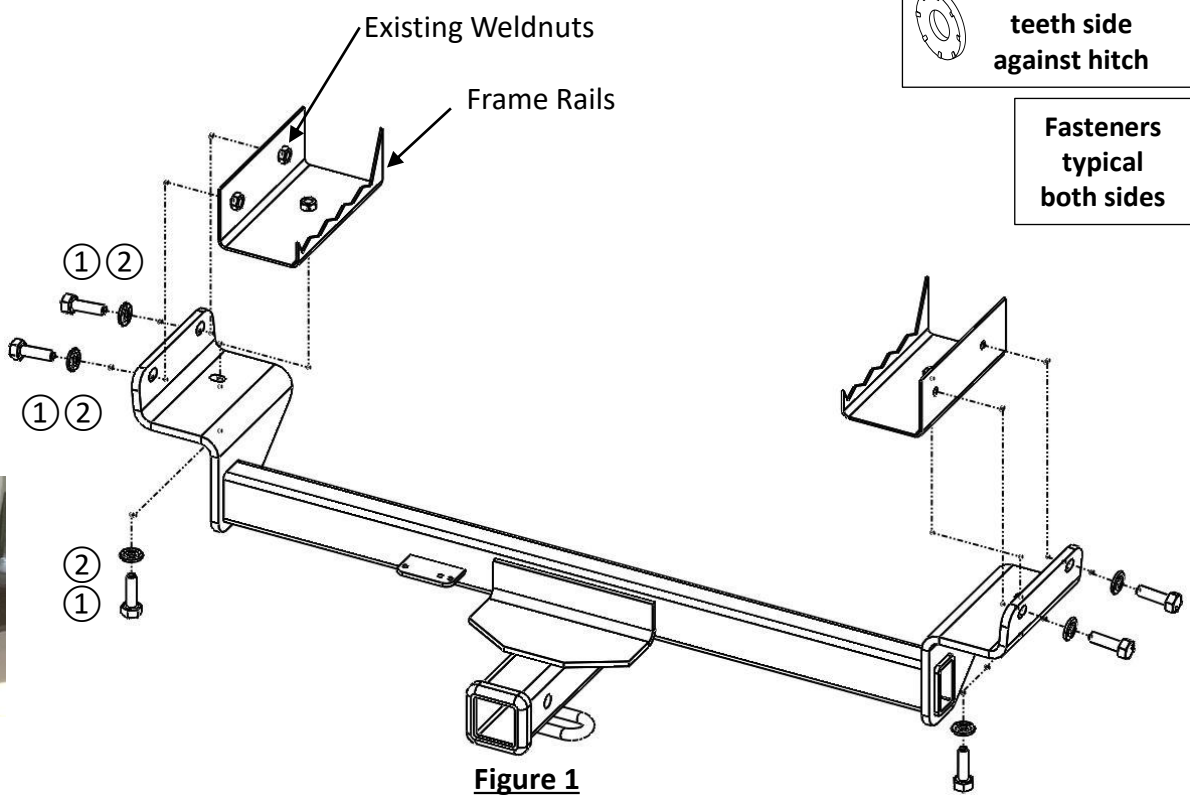

Figure 1
- Install hitch:** Raise hitch into position and loosely install (3) M10 bolts ① and (3) conical washers ②, both sides, see **Figure 1**.